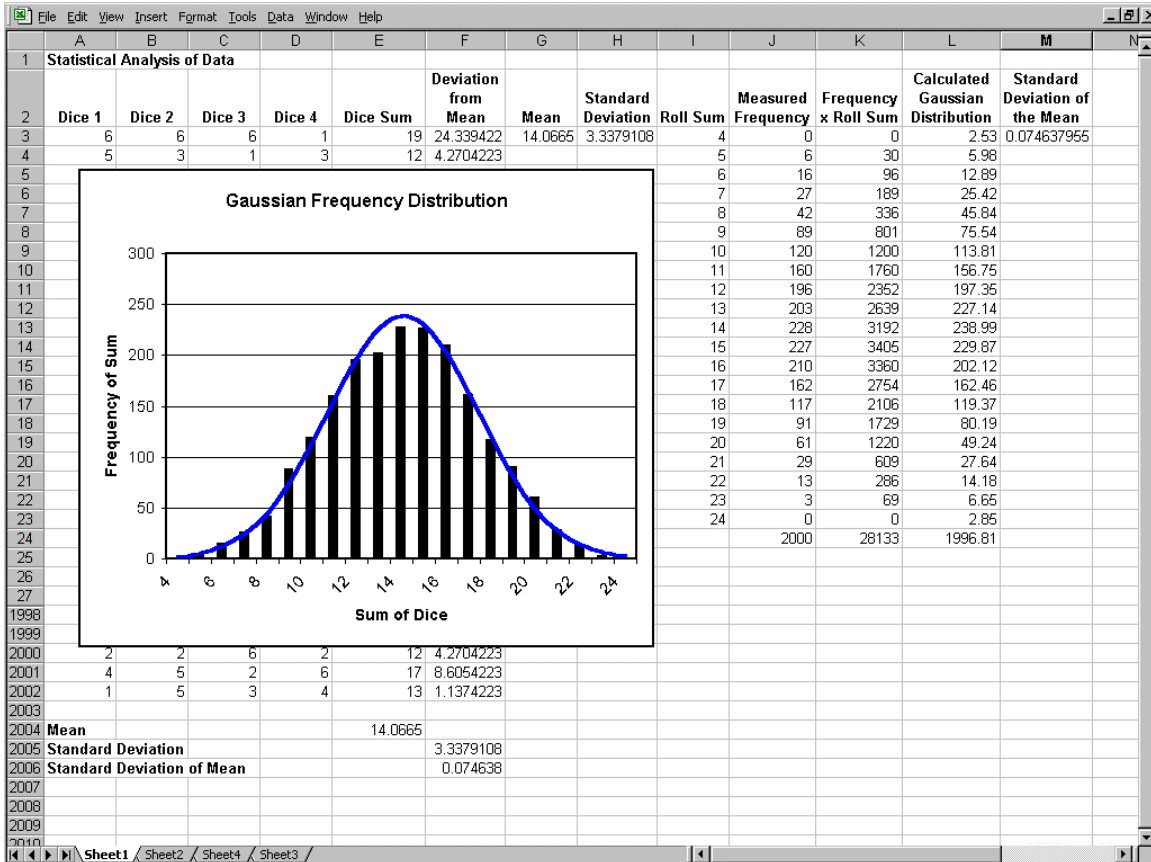

Figure 3. Sample printout of Excel spreadsheet.
30. To print your results, choose “File” again from the main menu bar and “Print” and “OK”. Your printout should look similar to the one in Figure 3.